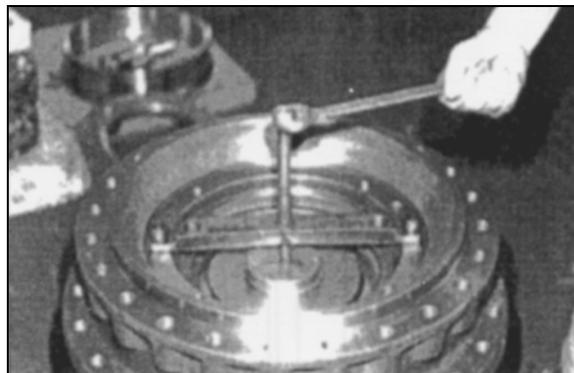

**Figure 118**
28. Install brake disc assembly, starting with a copper disc (seven pieces) and alternating with steel discs (six pieces). Figure 118 and Figure 119.